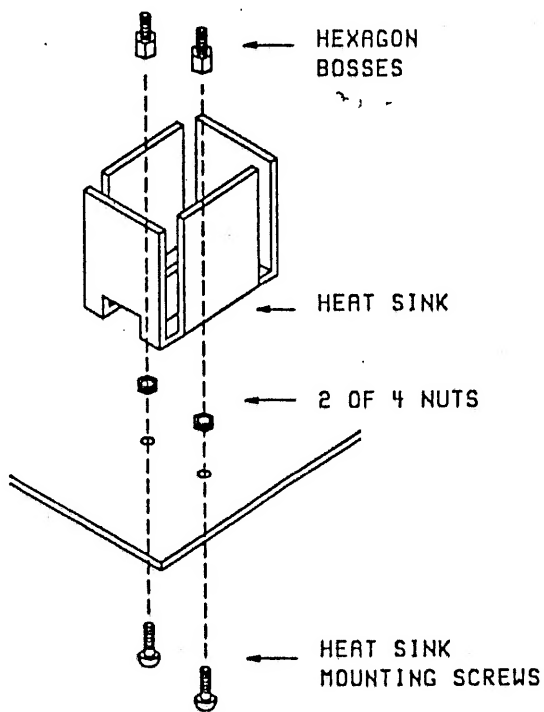

FIGURE 3
8. Remove the two nuts from the heat sink mounting screws. FIGURE 3
9. Replace the mounting screws with the ones in the kit. If the original screws have been soldered to the board, remove the excess solder and while the screws are still hot, turn the board upside down to allow the screws to fall onto the working surface. FIGURE 3
10. Secure the new mounting screws with the two nuts that were removed in step 8. FIGURE 3
11. Install the heat sink and secure it with the two hexagon bosses from the kit. FIGURE 3